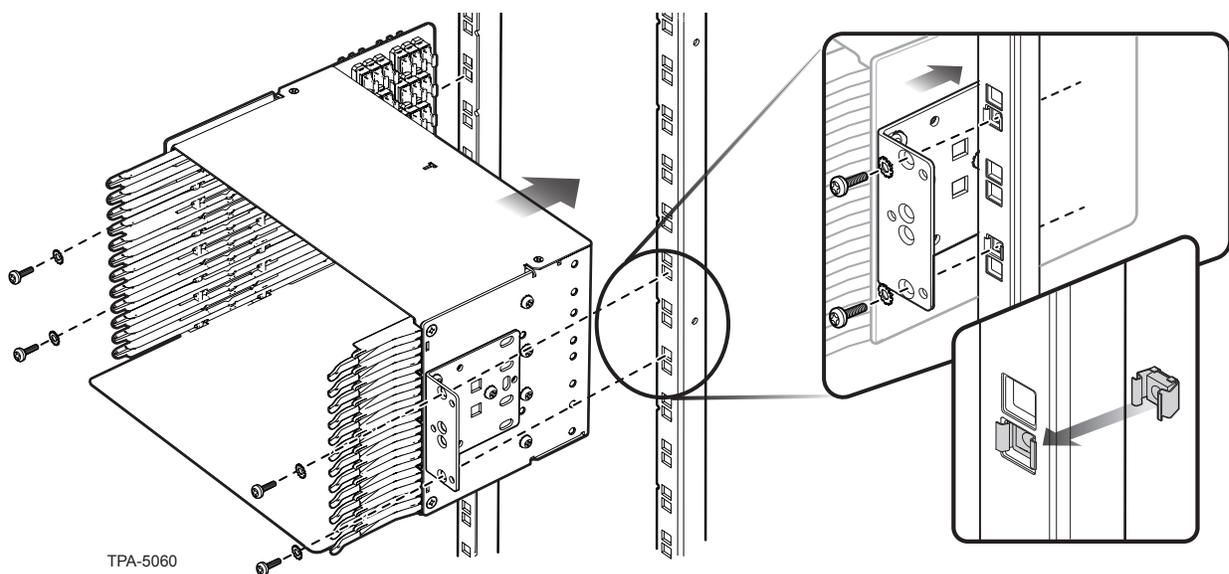

Figure 2
**Step 2:** Install the housing into the rear access frame (Figure 2) as described in SRP 003-948.